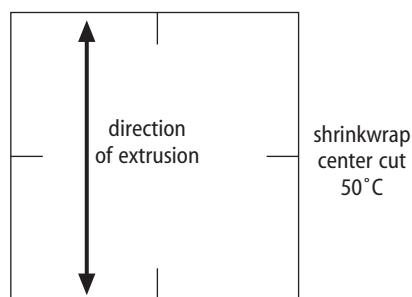

Figure 1. Cut a 10-cm square sample, mark the direction of extrusion and the midpoints of the sides.
- Cut 10 cm square samples from the material, marking the midpoints of both sides and the direction of extrusion. Cut samples from both the center of the sample and the edge, marking them appropriately. Make the midpoint marks at least 1 cm in length. See Figure 1.